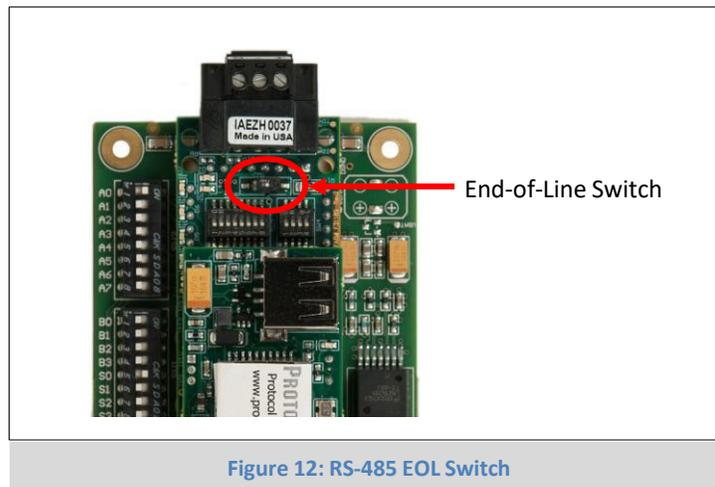

Figure 12: RS-485 EOL Switch
- If the ProtoNode is the last device on the BACnet MS/TP or Metasys N2 trunk, then the End-Of-Line Termination Switch needs to be enabled (Figure 12). It is disabled by default.